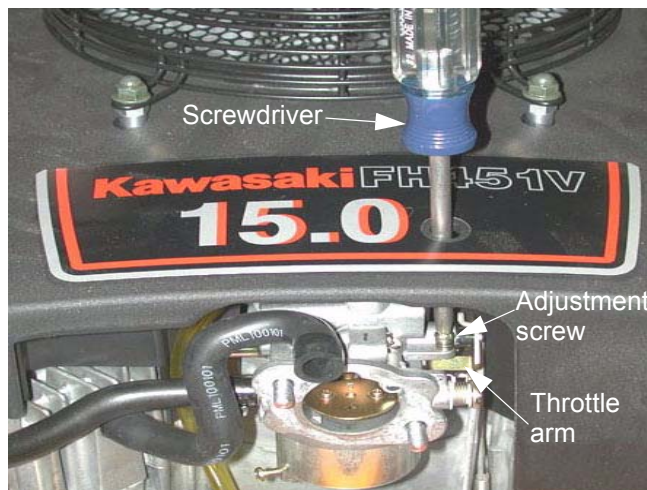

Figure 14.5
- 14.5. Set the idle throttle stop screw so that the engine turns 1,000 to 1,100 R.P.M. when the throttle arm on the carburetor is held against the end of the screw with light finger pressure. See Figure 14.5.